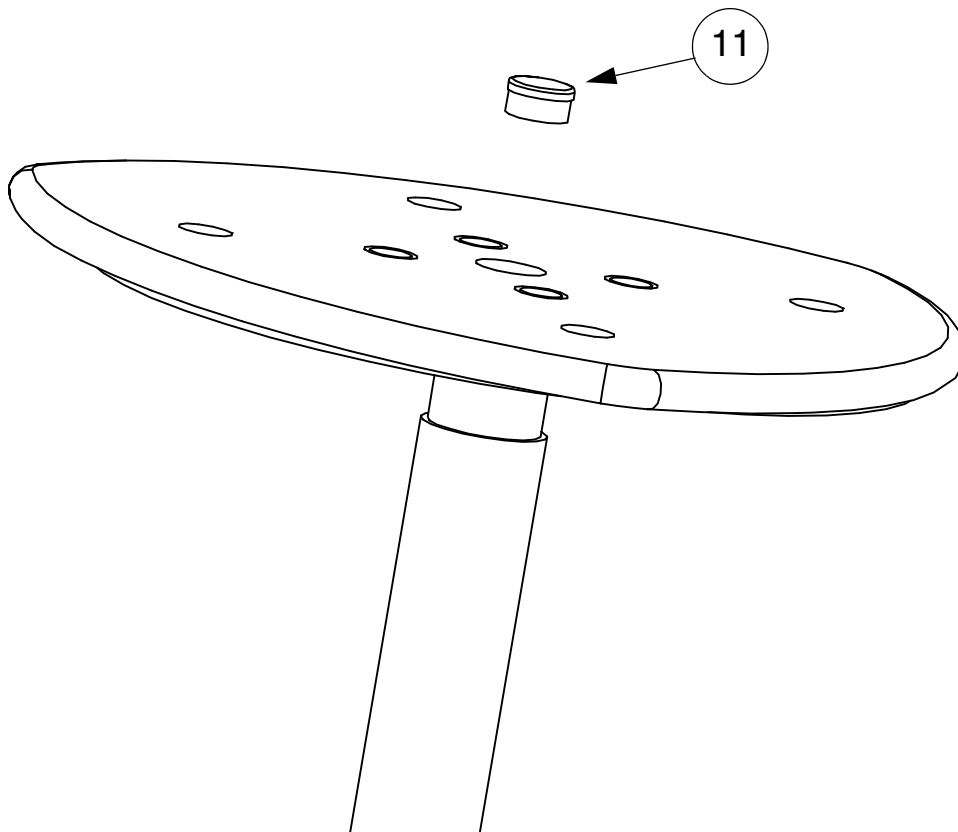

FIG.8
- 6) Insert and knock home with a soft hammer 1 off Black Plastic Plug (item 11) into the centre hole of the Eko Grip Seat. See FIG.8.